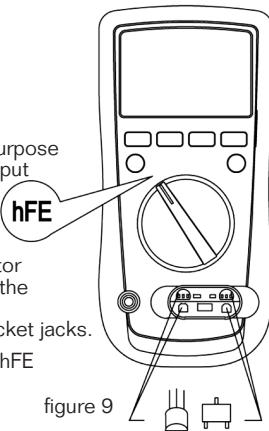

figure 9
## I Transistor hFE Measurement (See figure 9)
2. Insert the multi-purpose socket into the input terminal as shown on figure 9.